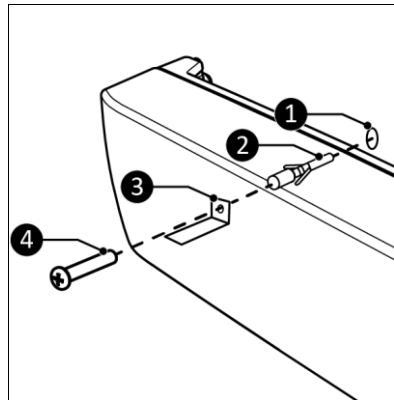

Figure 8
9. Place the bracket (Figure 8, pos. 3) on top of the heater with the short side against the wall.
10. Mark the location of the hole on the wall (Figure 8, pos. 1).
12. Drill a 10 mm hole on the marked location (Figure 8, pos. 1).
13. Insert the plug into the hole (Figure 8, pos. 2).
15. Firmly screw the bracket (Figure 8, pos. 3) to the wall (Figure 8, pos. 4).